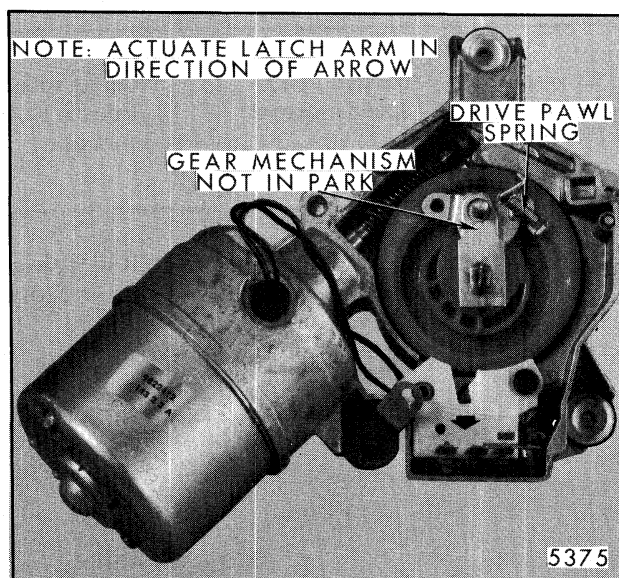

Fig. 2-29-Latch Mechanism
1. Check that drive pawl and latch arm springs are properly connected (Fig. 2-29).